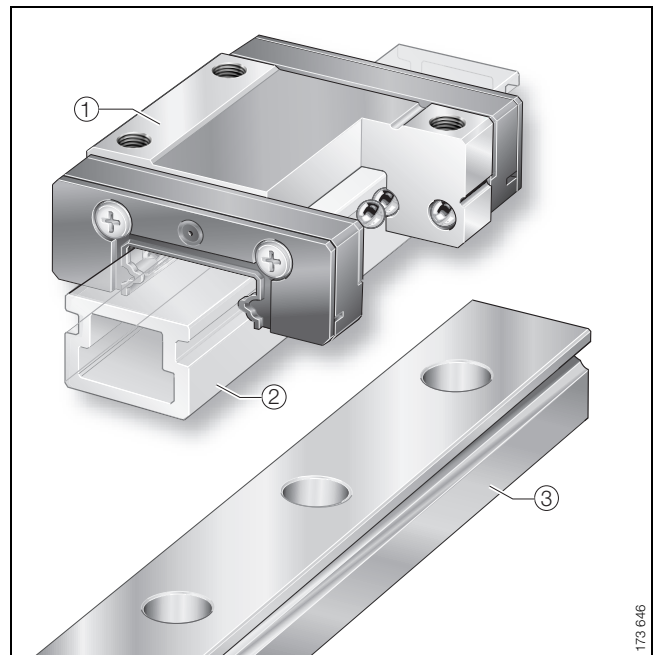

Figure 1 · Scope of delivery – guideway, carriage and dummy guideway
The carriage ① and guideway ③ are not supplied preassembled (Figure 1).